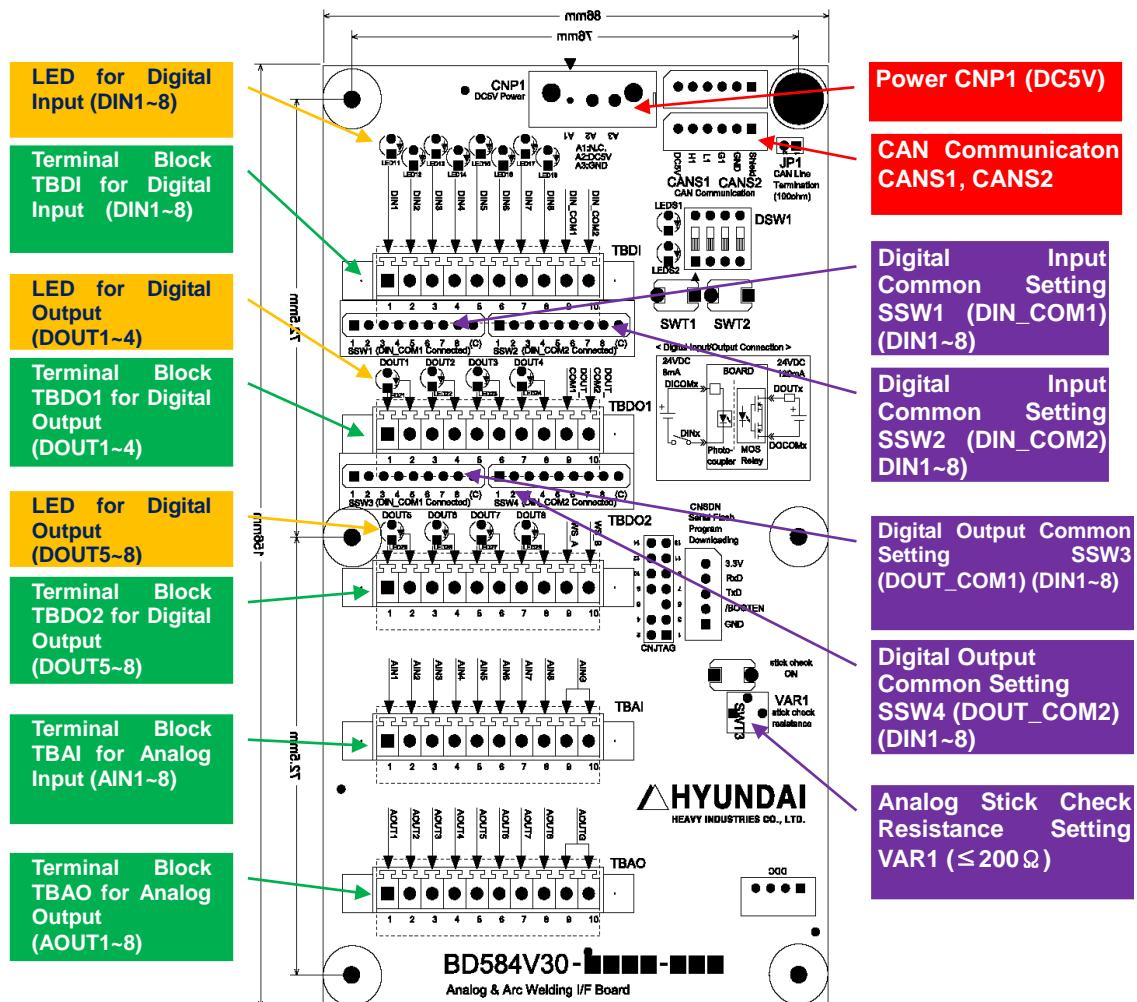

Figure 5.53 Configuration of Analog/Arc IF Board (BD584)
The board is 86mm(L) x 156mm(H) in size, and has many functions, which are shown in Figure 5.53 below.